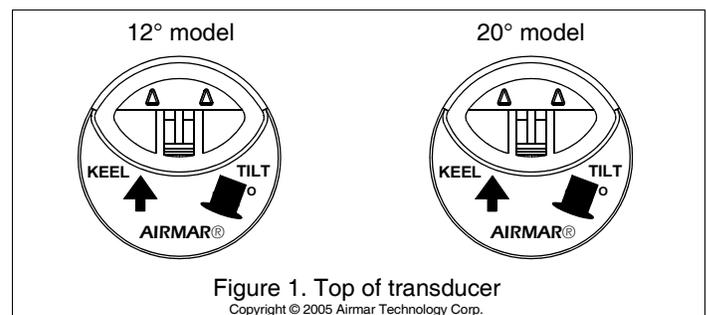
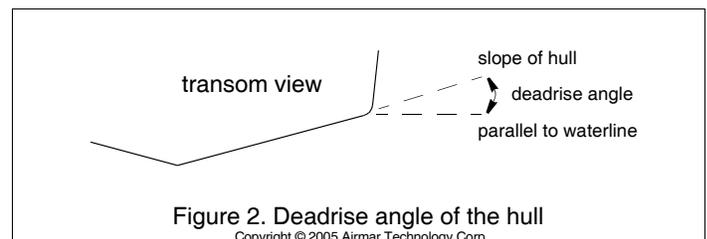

Figure 1. Top of transducer
Figure 2. Deadrise angle of the hull
*Be sure the tilt angle of your transducer model matches the deadrise angle of your boat at the mounting location.* The tilt angle is printed on the top of the transducer (see Figure 1). To measure the deadrise angle of your hull at the selected mounting location, use an angle finder (see Figure 2).
**12° and 20° models**—Be sure the arrow on the top of the transducer (and the cable exit) is pointing toward the KEEL/centerline of the boat (see Figure 1). This will align the angle of the element inside the transducer with the deadrise angle of the hull.